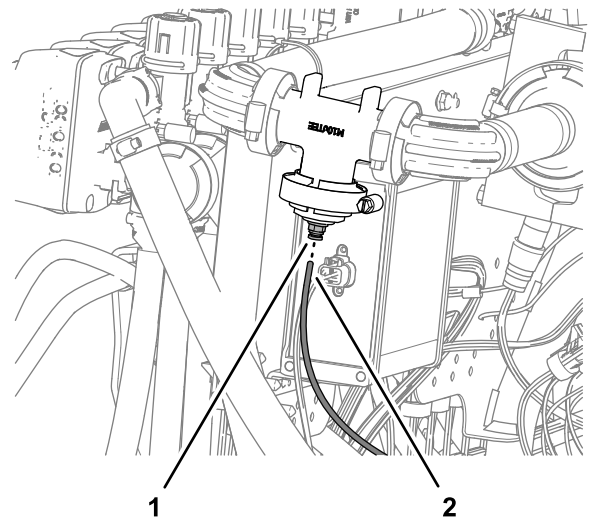

Figure 136
1. Align the end of the pressure-sense tube (plastic) for the pressure gauge in the dash with the locking collar for the tube coupler (Figure 136).
2. Insert the sense tube into the locking collar until the tube is fully seated (Figure 136).